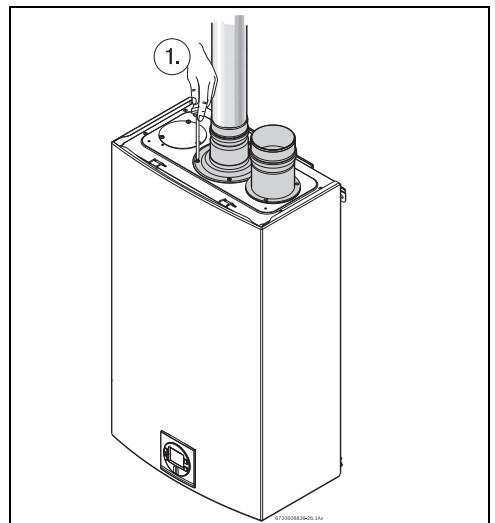

Fig. 18 Exhaust connection
- ▶ Attach the flue gas exhaust accessory to the top of the unit fig. 18 (position 1) using the 4 screws and gasket provided, and fully insert vent pipe into the accessory. If using 4" venting, a 3" to 4" increaser should be installed directly after this accessory. If using 2" venting, a 3" to 2" reducer should be installed directly after this accessory. If using the PP twin pipe system, adapters from the appliance adapter (3" PVC compatible) to the PP system are needed.